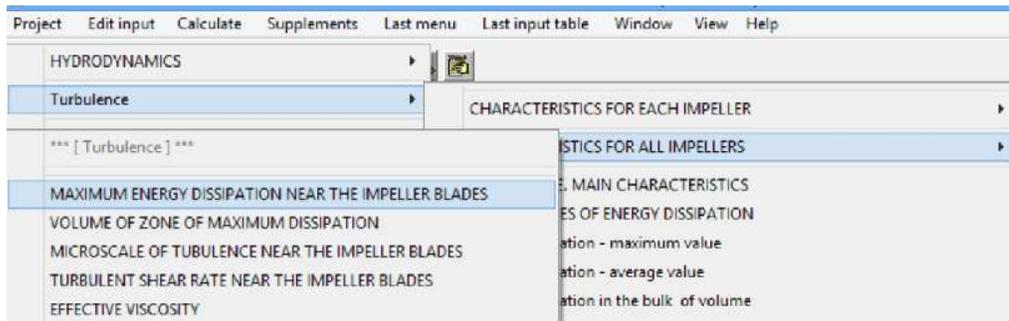

Figure 18. Menu options for comparison of impellers. Turbulence.
Data for comparison of shear parameters for the impellers are accessible via the menu option **Turbulence > Characteristics for all impellers** (Fig.18).
- It creates a higher local energy dissipation and accordingly a higher shear rate than the Lightnin 310 impeller (the Impeller 2), see Figs 18 and 19.